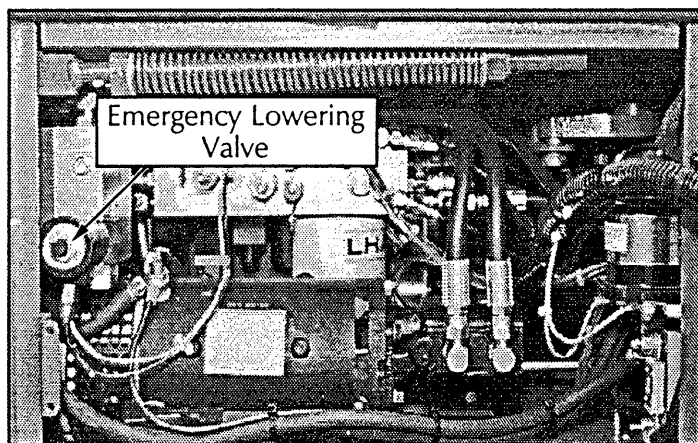

Figure 2-1: Chassis Module, Right Side
4. Close the Emergency Lowering Valve (Figure 2-1) by pushing in and turning clockwise until the detent engages.